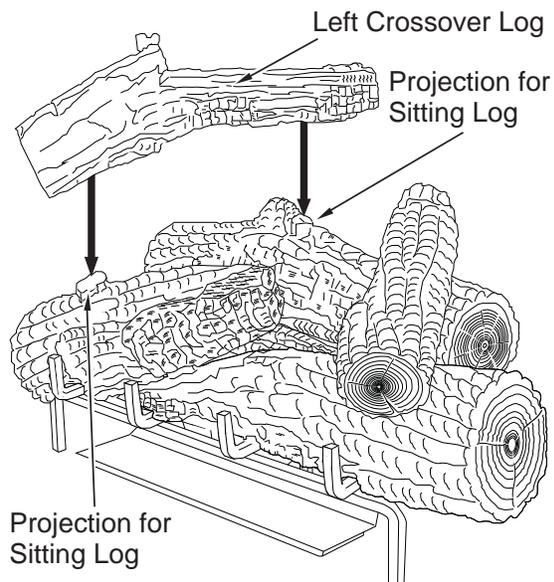

Figure 38 - Installing Left Crossover Log
- Place the left crossover log onto the rear log and the left front log as shown in **Figure 38**. The left crossover log has notches in the bottom that will line up with the projections on the rear log and the left front log.